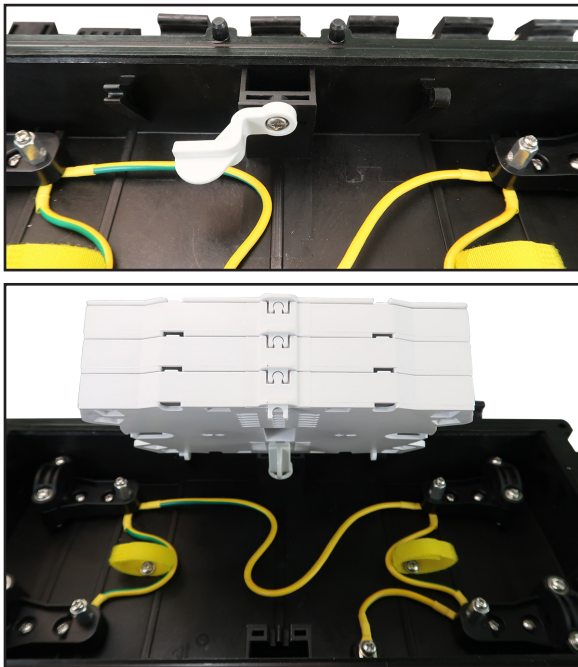

Figure 1-2: Turn over all the trays
- 1 Turn around the limiting button to turn over all the splicing trays from the bottom (Figure 1-2).